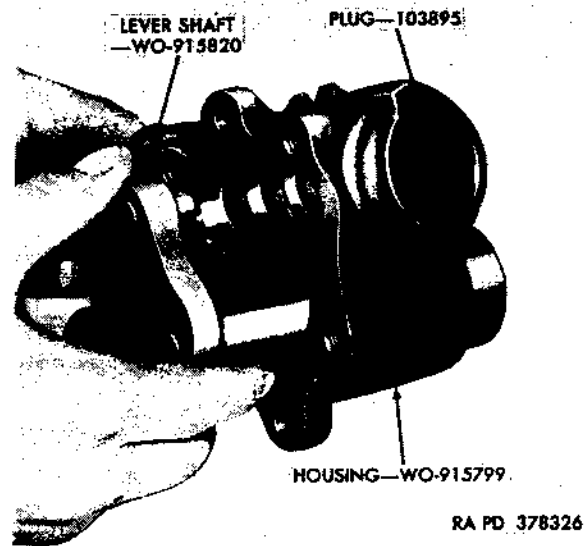

Figure 4. Removing lever shaft.
b. *Remove Lever Shaft* (fig. 4). Remove locknut and washer from end of lever shaft. Check the end of the lever shaft for burrs which might damage the lever shaft bushings recessed in the housing. Use a fine mill file to remove burrs; then pull the shaft out of the housing.
a. *Remove Plug* (fig. 4). The expansion plug in the lower end of the housing need not be